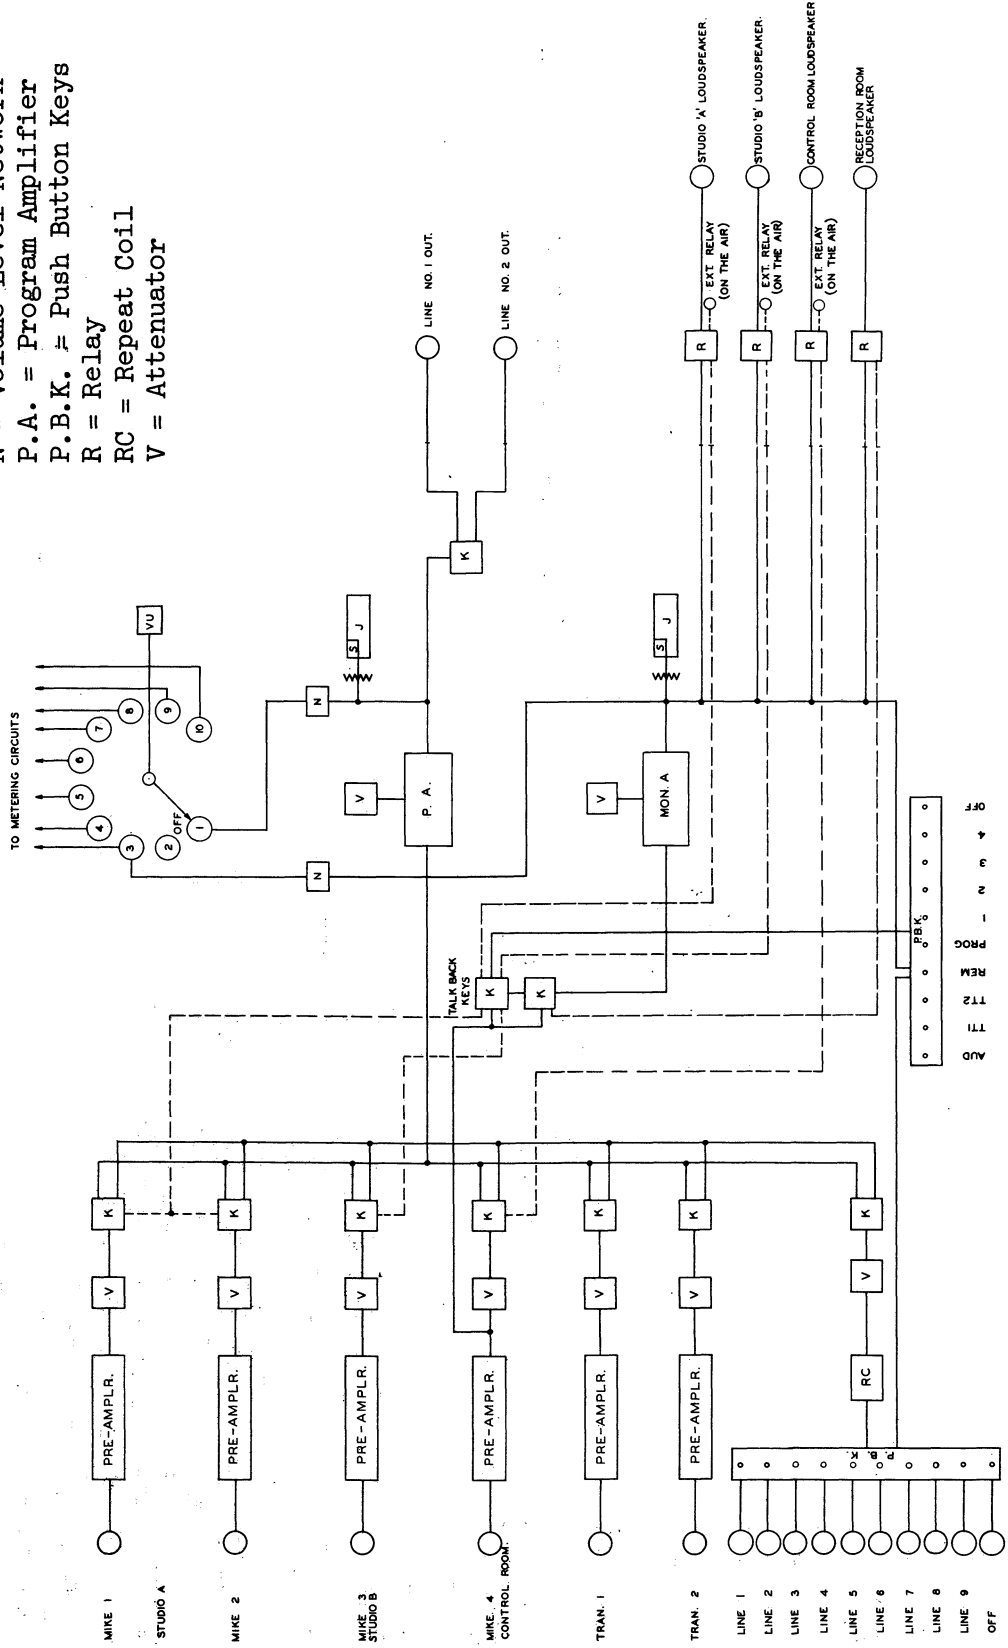

Figure 2-1 Functional Block Diagram
(1) CIRCUIT FUNCTIONS. - The overall functions of the circuits incorporated in this equipment are outlined in the block diagram shown in figure 2-1. Seven independent input channels are provided, including four microphone line inputs, two low level transcription inputs and a remote line input with a repeat coil which may be connected to any one of the nine remote lines by means of push button switching. Each low level input line is connected into a two stage pre-amplifier. The output of each is connected to a constant impedance attenuator and a selective switching circuit which allows any input channel to be connected to either the program or audition channel. The remote channel provides the feedback of cue to the remote line selected. Loudspeakers in all studios may be operated from the monitor amplifier, with selective talkback circuits interlocked to prevent program interruption. Talkback from the control room is possible into either studio or into the remote lines not in use by key switch control. Connections are provided for interlocked studio signal lights. An integral metering circuit allows instantaneous visual check of the operating conditions in any of the amplifier circuits